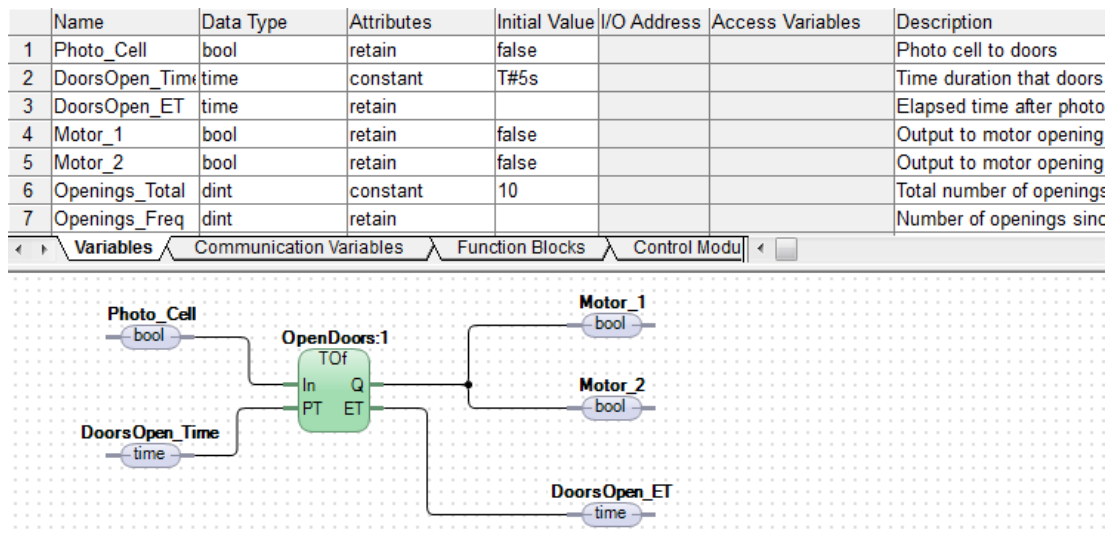

Figure 40. Variable connections to OpenDoors Function Block
4. Insert the variables **Motor_1**, **Motor_2**, and **DoorsOpen_ET** using any of the methods. Connect these three variables to the parameters as in Figure 40.